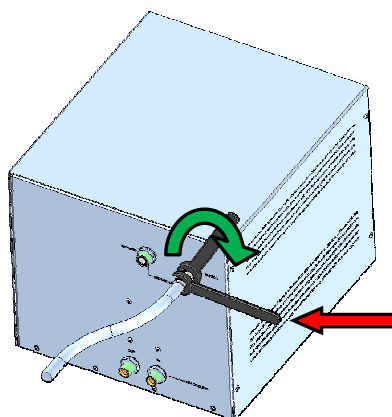

Figure 7 – Connection of a helium hose to the Cryodrive using two spanners
The Cryodrive has one helium supply outlet and one helium return inlet (Figure 2, Items 15 and 16). Helium hose connection is shown in Figure 7.
- Connect the coupling halves by hand until you feel resistance. Rotate the spanner as shown by the green arrow in Figure 7 to fully tighten the coupling.